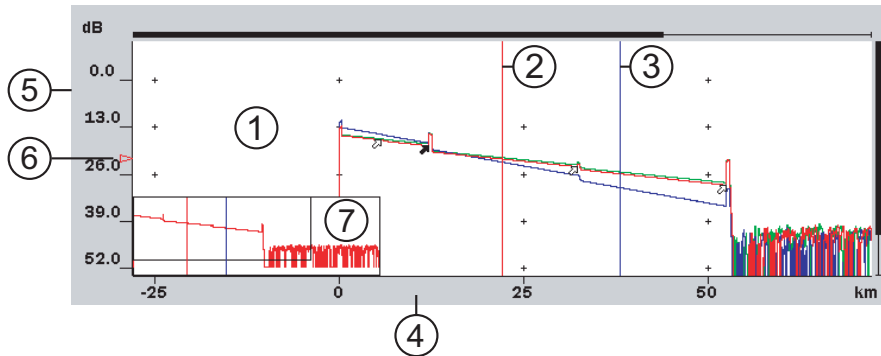

Figure 6-22: Trace Graph – OTDR (Construction) Mode
The Trace Waveform (or Trace) is the downward sloping line going from left to right that connects the data points collected during a test. See item 1 in Figure 6-22.
The cursors (see items 2 and 3 in Figure 6-22 on page 6-56) are the two vertical lines that extend from the top to the bottom of the trace graph. The cursors allow you to extract power and distance information from the trace graph. The active cursor is displayed in red and the inactive cursor is displayed in blue.
The vertical axis scale (see item 5 in Figure 6-22 on page 6-56) is located on the left side of the trace graph and is expressed in dBs, while the horizontal axis scale (see item 4 in Figure 6-22 on page 6-56) is located at the bottom of the trace graph and is expressed in the distance unit as set on the Preferences screen. See “Distance Display Units” on page 6-3 for details.
The dB level indicator (see item 6 in Figure 6-22 on page 6-56) denotes the intersection of the active cursor and the trace level.
The Trace Overview window (see item 7 in Figure 6-22 on page 6-56), located in the lower left corner of the Trace graph, shows a thumbnail view of the current trace. This is helpful in determining the location of an expanded section on the main view. The black rectangle inside the Trace Overview window indicates the section of the trace that is currently displayed in the Trace graph when the trace has been expanded horizontally, vertically.